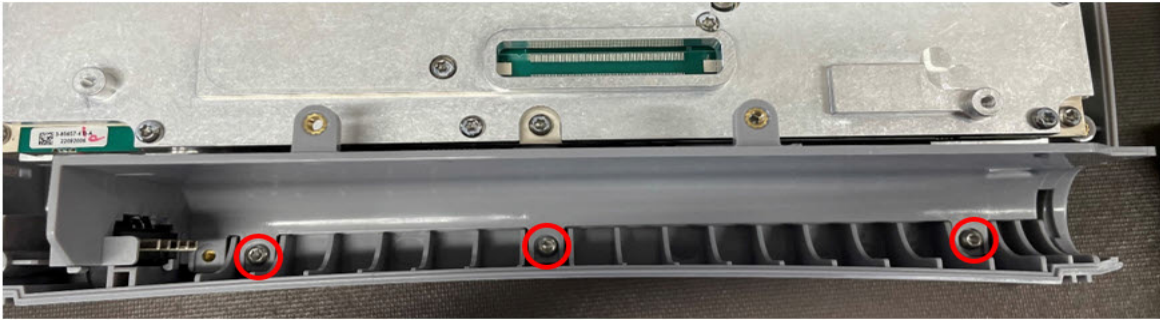

Figure 3-8. Battery Shroud Removal
5. Remove the three Torx screws securing the battery shroud using a T10 Torx screw driver. See Figure 3-8.